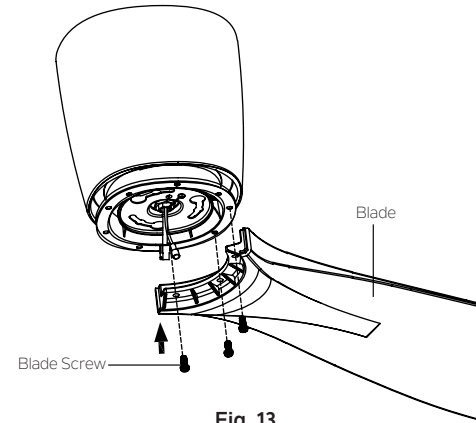

Fig. 13
Step 1. Attach the fan blades to the flywheel using the blade screws and tighten them securely. (Fig.13)